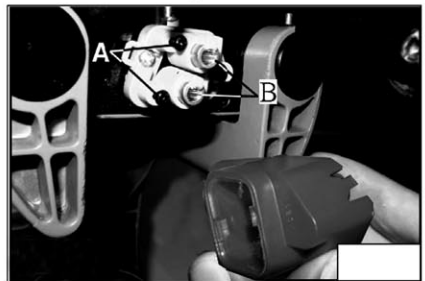

Figure 16
2. Loosen pan head screws (A) Fig.16 next to each laser guide (B).
4. Turn both laser tips (B) until the laser beams are perfectly aligned with both sides of the blade kerf, once aligned, hold laser tip and retighten pan head screw (A) to prevent the laser dial from moving. Repeat for the second laser tip.